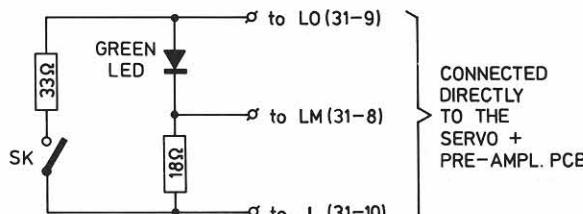

Fig. 3
6. With a disc on the turntable, put the set in service-loop 0. Switch S on and adjust the trimming potentiometer back in such a way that 3 complete pulses are visible during 0.1 sec.(fig.3). The polarity of the oscilloscope must be chosen so that the tops of the pulses are in upward position.